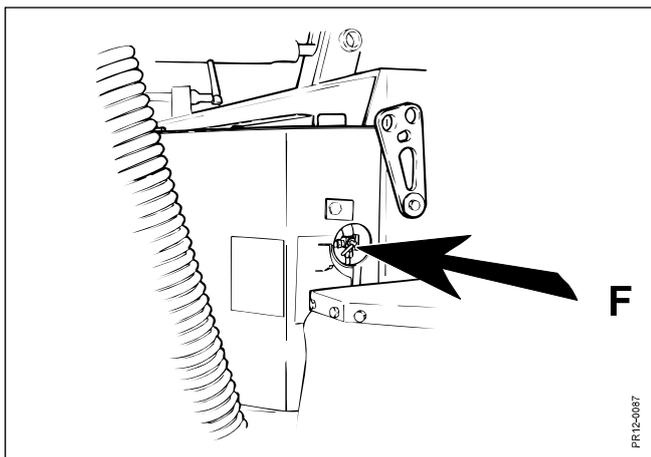

Fig. 5-19
- Fig. 5-19** Turn on the oil when the machine is started by turning the tap at **F** on, so that it is approx. half open. **Remember to close again when the machine is stopped.**